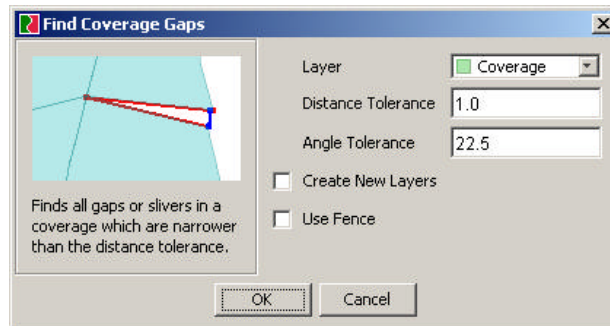

Figure 3-3 - Find Coverage Gaps dialog
- In the Find Coverage Gap dialog (see Figure 3-3 below) select the layer to work on, and choose an appropriate Distance Tolerance. (A good idea is to choose a small tolerance to begin with and then make the tolerance larger in subsequent runs to find larger errors). The Angle Tolerance is less critical – the default value of 22.5 degrees is almost always sufficient.